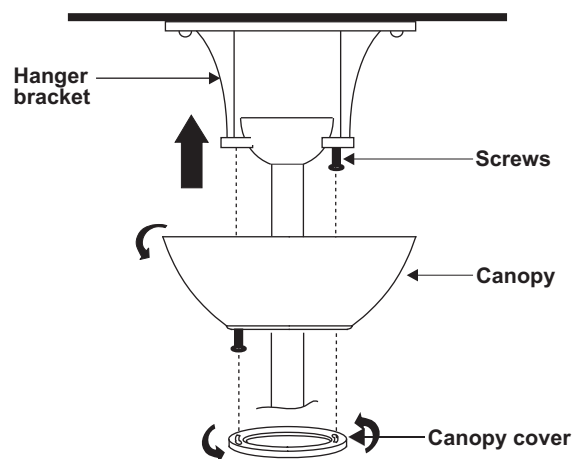

Figure 18
7. Slide the canopy up to hanger bracket and place the key hole on the canopy over the screw on the hanger bracket, turn canopy until it locks in place at the narrow section of the key holes. Note: adjust the canopy screws as necessary until the canopy and canopy cover are snug. (Fig.18)